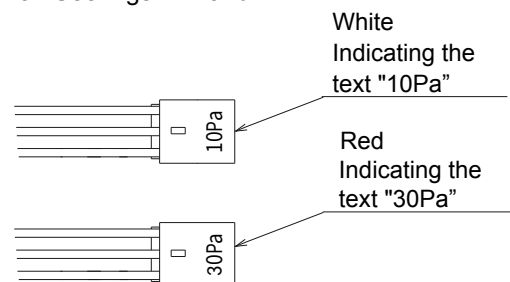

Fig. 7.1 Switching between external static pressures of 10Pa and 30Pa
- (1) Fix the wire clamp body and its nuts to the wiring hole of electric box using a torque of 1.0~1.2N.m.
- (2) Connect the cable of wired control to the connectors on the printed circuit board in electric box through the wire clamp and wiring hole.
- (3) Connect power cord and the communication cables of indoor and outdoor units to corresponding terminals of electric box in the same way.
- (4) Upon completion of electrical wiring, the wire clamp nut shall be manually tightened to block condensate and insects.
- (5) The external static pressure of the indoor unit is 10Pa, while the 10Pa plug (white) of motor is connected to base board PCBN18 terminal at delivery. To set the external static pressure to 30Pa, please connect the 30Pa plug (red) of motor to the base board PCBN18 terminal. See Figs. 7.1 and 7.2.